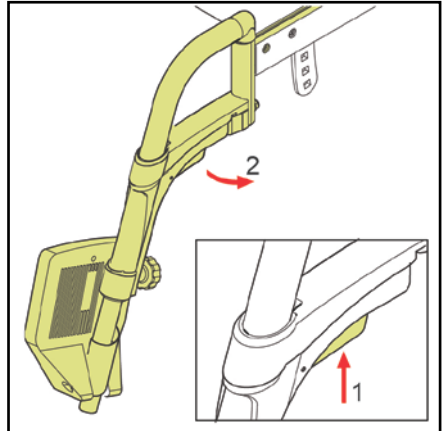

Figure 6.2
2. If possible, swing the legrests to the side (fig 6.2).